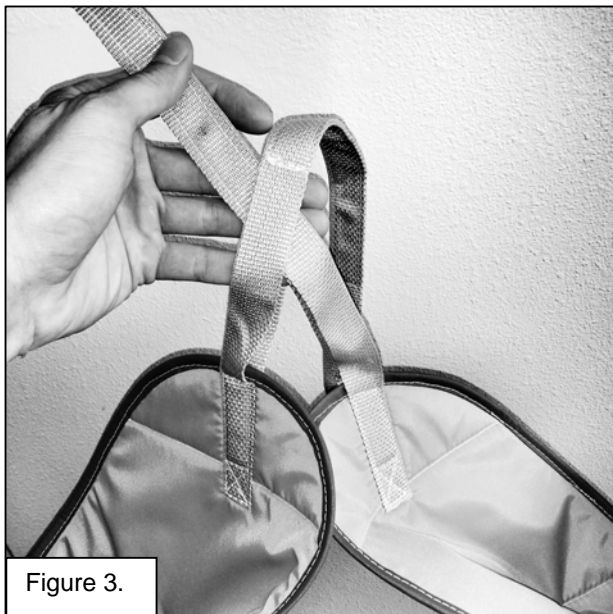

Figure 3.
5. Between the legs, the front straps will thread through each other and hook crisscross in front of the user. **See figure 3.**